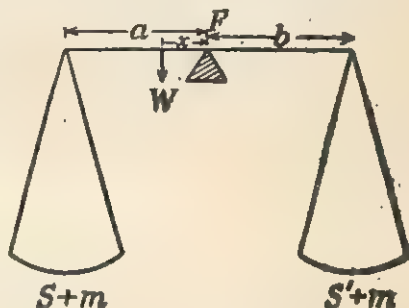

Fig. 9.1. Principle of balance.
2. **Principle of weighing by balance.** A balance works on the principle of moments. To understand this, let  $S$  and  $S'$  be the masses of the pans and ' $a$ ' and ' $b$ ' be the lengths of arms of the balance respectively as shown in Fig. 9.1. If the centre of gravity of the beam be at a distance  $x$  from the fulcrum  $F$  and the beam be horizontal without any extra weights on the pans, then from the principle of moments :